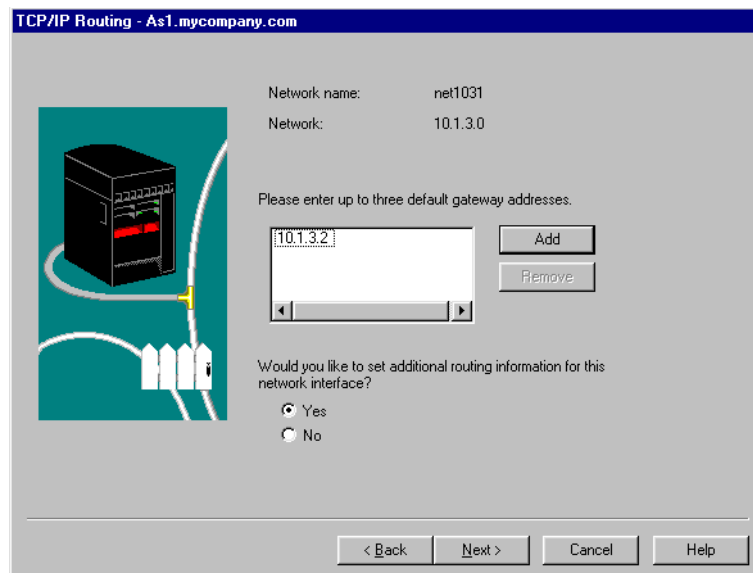
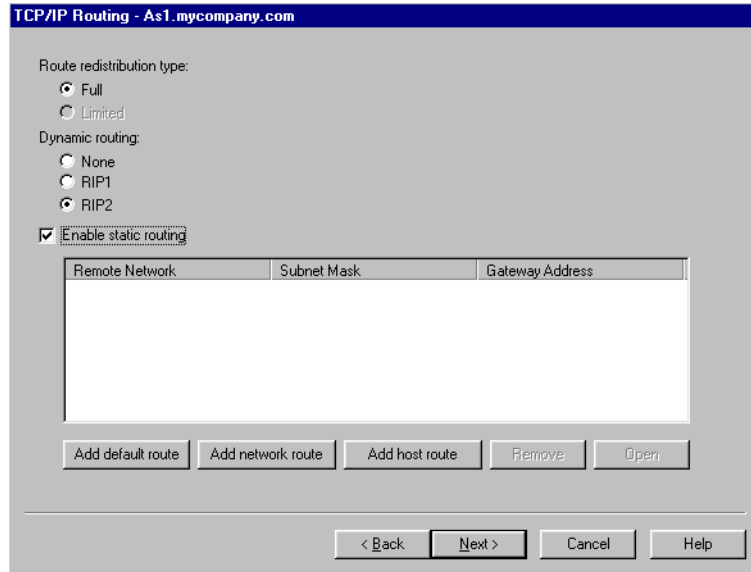
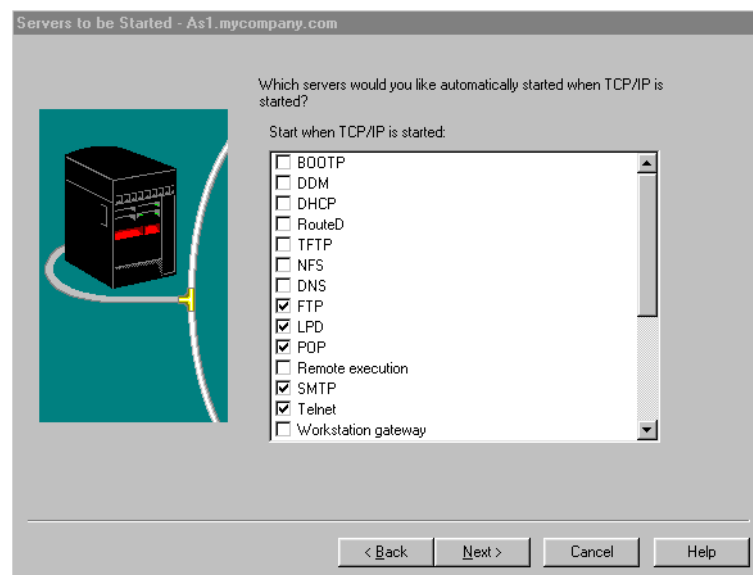

Figure 454. TCP/IP Routing
Figure 455. TCP/IP Routing additional information
Figure 458. Define Servers to Start when TCP/IP is started
After you specify all the values, click **Next**. The TCP/IP Routing window displays (Figure 454).
9. The window in Figure 454 is where you list the gateways to which this route directly connects. A *gateway* is a piece of hardware that connects two or more network segments. It is often called a *router*. You can define up to three gateway addresses. If your AS/400 system is only attached to a single network, then you do not need to specify any gateway addresses. This is also where you specify additional routing information for this interface. This may be used for load balancing or to define multiple routes for backup purposes. Click the **Yes** button to configure additional route information. Click **Next**. The TCP/IP Routing window (Figure 455 on page 798) displays.
When you have added all the route information you need, click **OK** until the TCP/IP Routing window (Figure 455) displays. Click **Next**. The Servers to be Started window (Figure 458) appears.
13. From the Servers to be Started window (Figure 458), select all the currently installed servers that you want to start automatically when TCP/IP starts. If